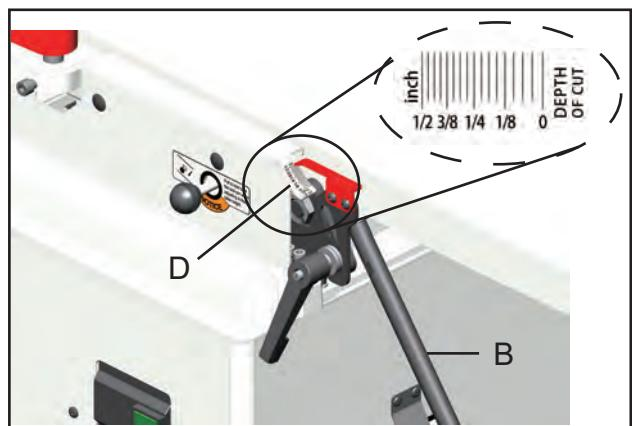

Fig. 10
2. PULL out the 1/8" depth stop plate (C) then raise or lower the height adjustment handle (B) to the desired depth of cut then retighten lock handle (A) to secure the infeed table in position, Fig. 10.
Note: Refer to the graduated depth scale (D, Fig. 10) . Do not connect the plug to power source
Step 3. The pulley cover (A) is mounted by 4 Round Head phillips screw w/teeth washers (B) to the threaded holes in the Stand, Fig. 10.
Step 4. Loosen the 4 pan head phillips screw (C) on the base Remove side cover (D)